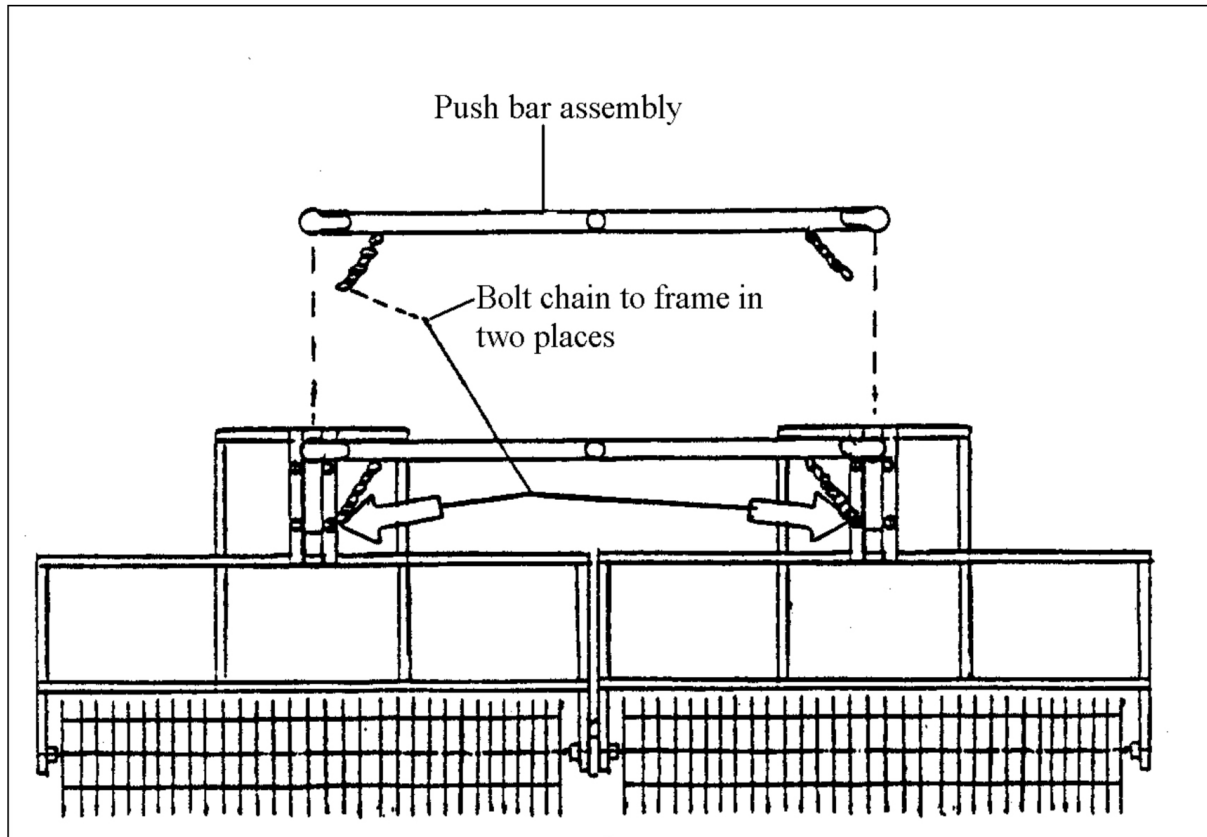

Figure 4: Frame chain attachment (SP10SA only)
- Locate the chains on the draw bar (see Figure 4).